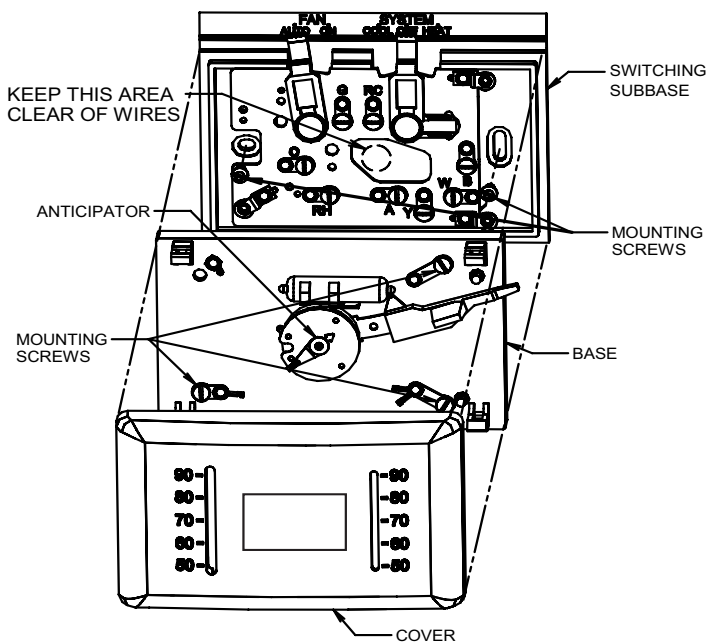

Figure 1.
- Mount switching subbase:** Use the screws provided to mount the subbase to wall (see Fig. 1).
- Mount Thermostat Base:** Gently push excess wire back into the wall opening and plug hole with a fire-resistant material, such as fiberglass insulation to prevent drafts from affecting thermostat operation. Mount the thermostat base to the subbase using the three captive screws on the thermostat base. (see Fig. 1) Tighten the screws securely. Proceed to Step #5.